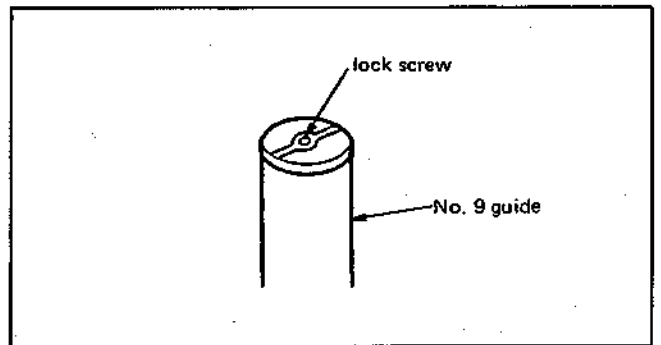

Fig. 4-22
8) Loosen No. 9 guide lock screw. (Fig. 4-22)